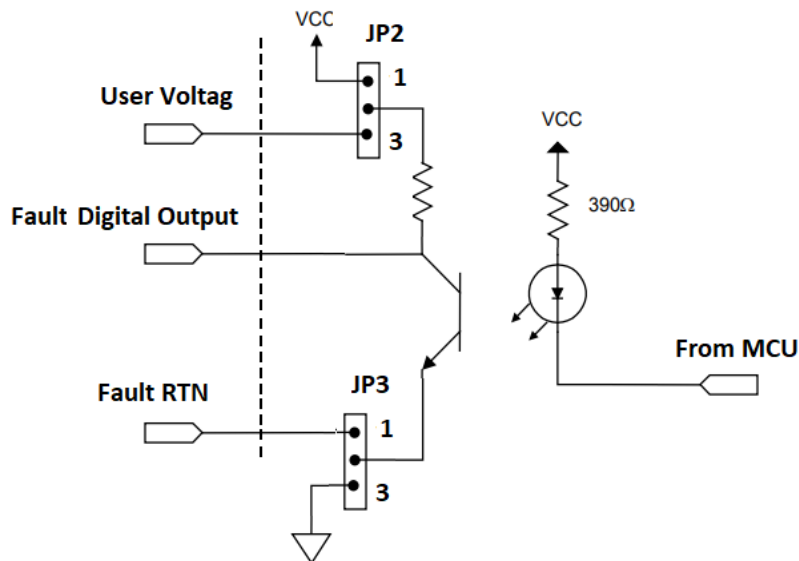

Figure 30: Chain mode – JP2 not connected
- In normal digital output mode, the opto-coupler emitter is shorted to driver GND, however the fault signal can be configured for daisy chain mode (as show in Figure 30: Chain mode – JP2 not connected).
- To Configure a single driver or daisy chain, configure (factory setting) jumper JP3 (see Figure 30: Chain mode – JP2 not connected).